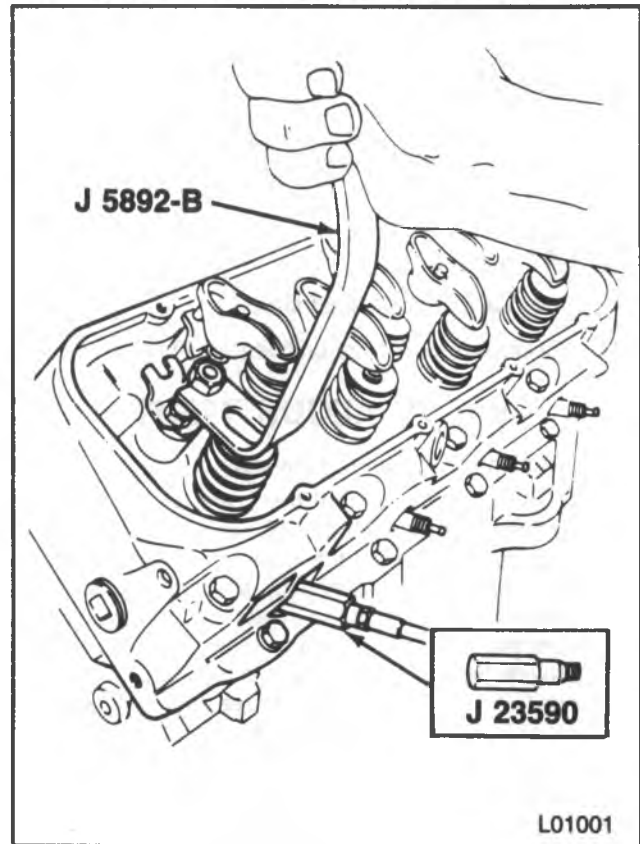

Figure 5 — Compressing the Valve Spring
- Install a rocker arm nut (figure 5).
- Use J 5892-B to compress the valve spring (figure 5).
5. Cap (26) and spring with damper (29).
6. Seal (33).
- With air pressure applied to the cylinder with J 23590, compress the spring with J 5892-B (figure 5).